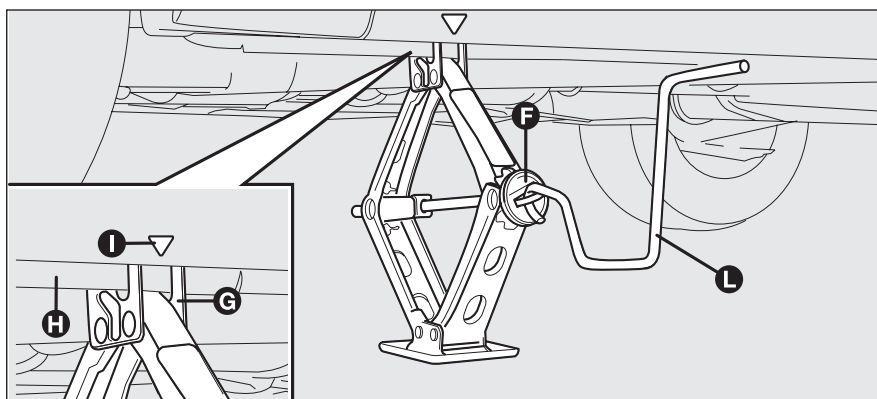

fig. 14
- ☐ operate the device **F**-fig. 14 to expand the jack, until the groove **G** on the upper part of the jack is correctly inserted on the lower edge **H** of the body at indication **I** (at approximately 60 cm from the front wheel centre or 80 cm from the rear wheel centre);
- ☐ fit the handle **L**-fig. 14 to operate the jack and lift the car until the wheel to be changed is several centimetres off the ground;
- ☐ turn the jack handle **L**-fig. 14 to lower the car and remove the jack;